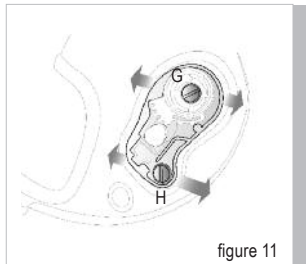

figure 11
**Adjustment** see figure 11
see figure 11